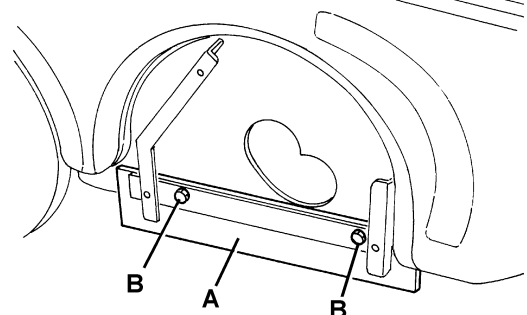

Figure 20
9. Remove the main broom belt (57) from the pulley (61); for an easier removal, turn the pulley (61) by manually operating on the fan (64).
10. Remove the screws (25) and the right cover (24) together with the belt (57).
11. Adjust the height of the skirt (A, Fig. 20) by using the slots (B).